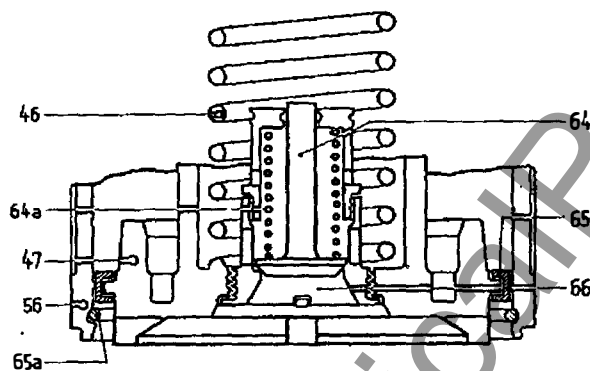

Fig. 2
Discharge valves 48 and valve 66 (see Fig. 2) at bottom of differential piston protect arc extinguishing chamber against high pressures.
- Slightly press down piston, and remove holding ring 65a (see Fig. 2). The relaxing return spring 46 presses piston out of guideway and therefore should be retained.
- Differential piston 47 with valve 66 and return spring 46 should carefully be led into upper part 56 of chamber and pressed down to allow holding ring 65a (see Fig. 2) to be inserted. Check by pressing down and releasing whether piston can be moved in guideway without arresting.